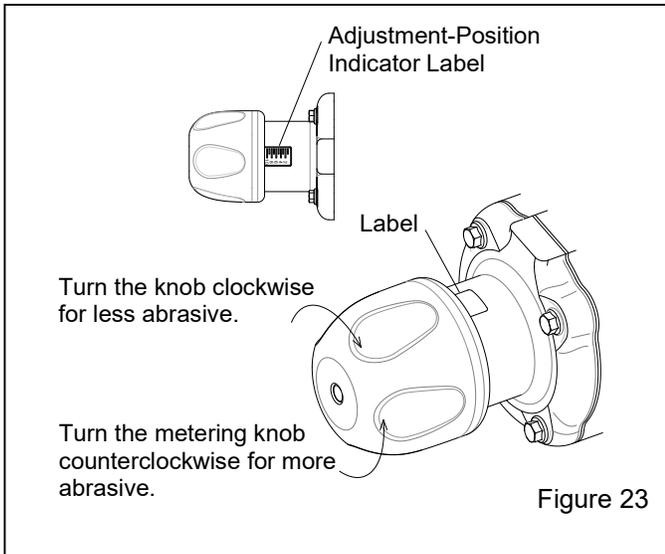

Figure 23
**5.2.2** The valve is closed when the knob is fully clockwise. Increase abrasive flow by turning the knob counterclockwise and decrease abrasive flow by turning the knob clockwise, as shown in Figure 23. Begin with the
**5.8.1.2** The timer is factory set at 40 seconds OFF and 150 milliseconds (0.15 second) ON, as shown in Figure 23. Every 40 seconds, the cartridge is pulsed for 0.15 second.